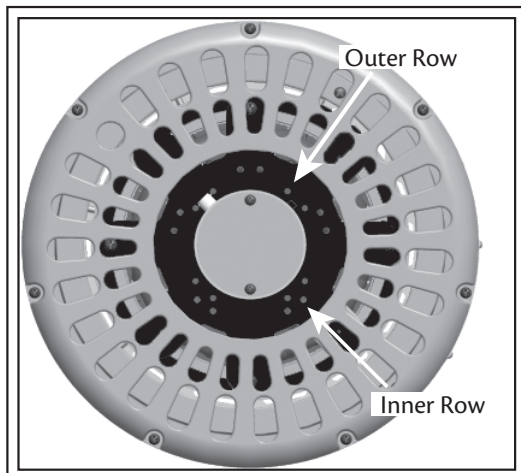

Fig. 15
**NOTE:** With the Hunter Original, you have an option to install either four or five blades. For five blades, mount to the outer row of holes on the motor. For four blades, use the inner row (see Fig. 15).